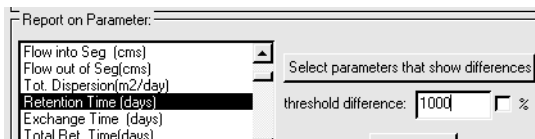

Figure 61: Threshold Values
- To display only those parameters that exceed a given value for any of the segments listed in the node table at any time in any model run, enter the value in the **threshold difference** box and press **Select parameters that show differences**. The parameters that are selected in the **Parameter** list box are those parameters that exceed this value; see *Figure 61*.